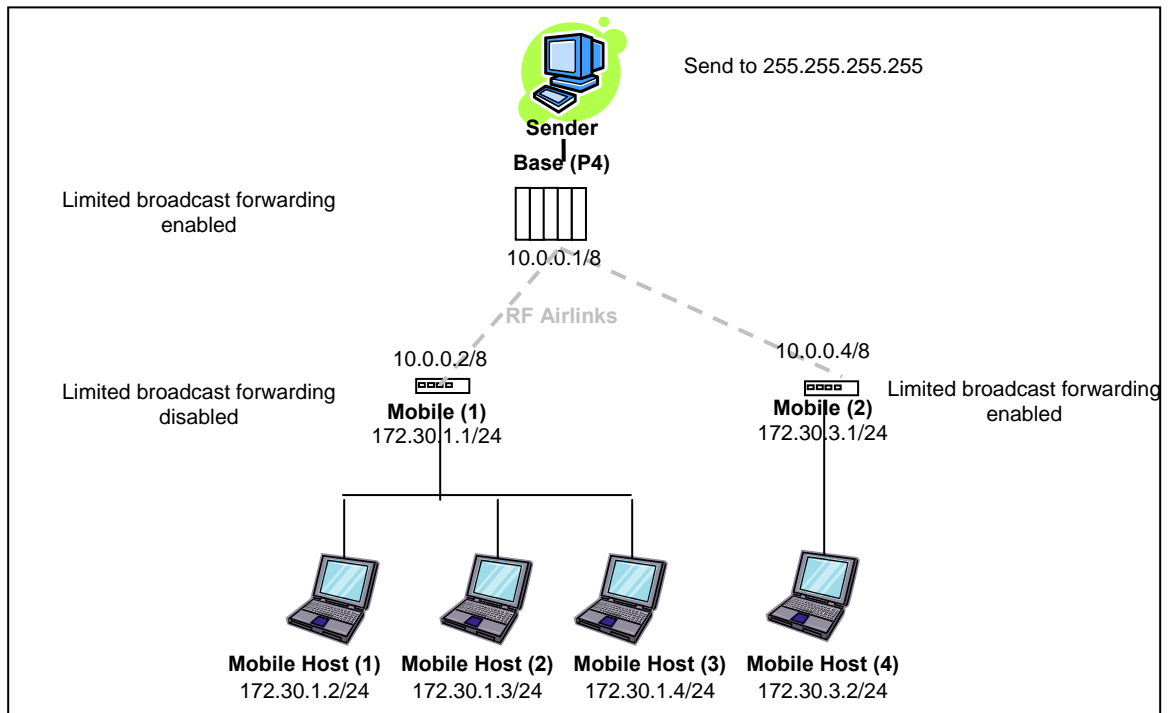

Figure 43 - Example of Limited broadcast forwarding disabled
In this example (Figure 43), limited broadcast forwarding is enabled on the **Base** unit, disabled on the **Mobile (1)** unit and enabled on the **Mobile (2)** unit. If **Sender** sends a packet to destination address 255.255.255.255, the packet would reach **Mobile Host (4)** only. The **Mobile (1)** unit would discard any limited broadcast packet it received from the **Base** unit.